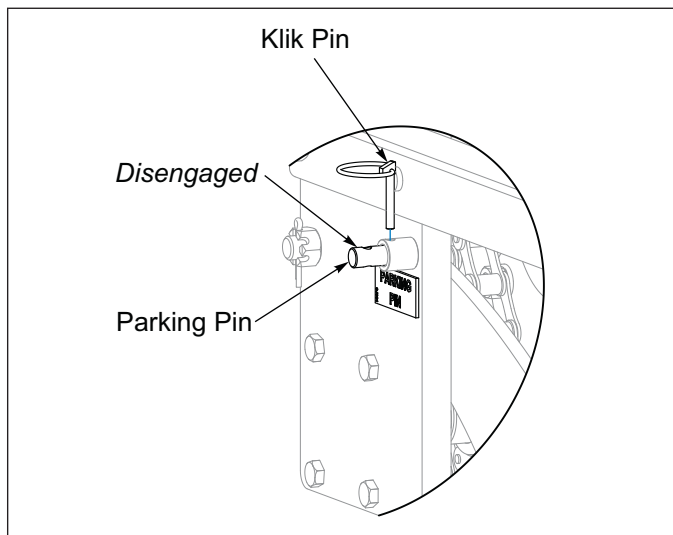

Figure 3-21: Parking Pin Engaged
3. On the LH side of the Seeder Unit, engage the Parking Pin to lock the Rear Roller down. **See Figure 3-21.**